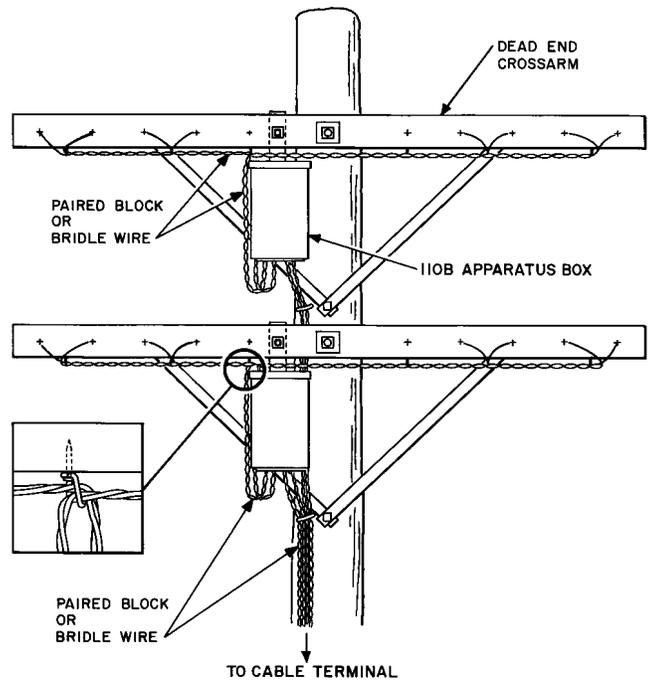

Fig. 11—Wiring Inductors at Open Wire and Cable Junction
7.01 Use paired block or bridle wire for bridling between open wire circuits and 1530-type inductors housed in a 110B Apparatus Box and between inductors and cable terminals (Fig. 11). Terminate the bridling as outlined.